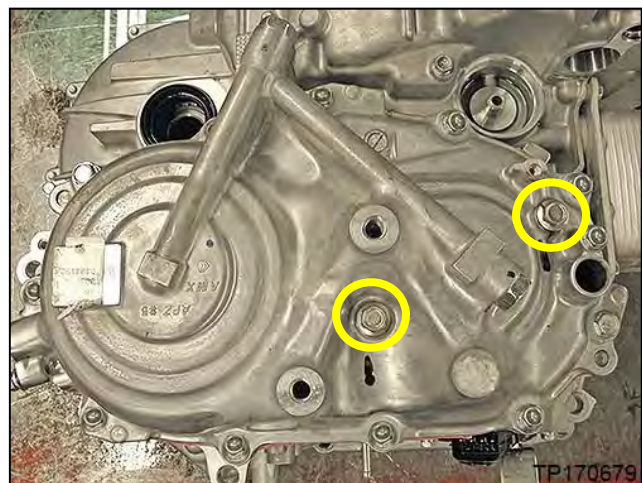

Figure 95
75. Remove the two (2) pulley bearing retainer bolts shown in Figure 95.